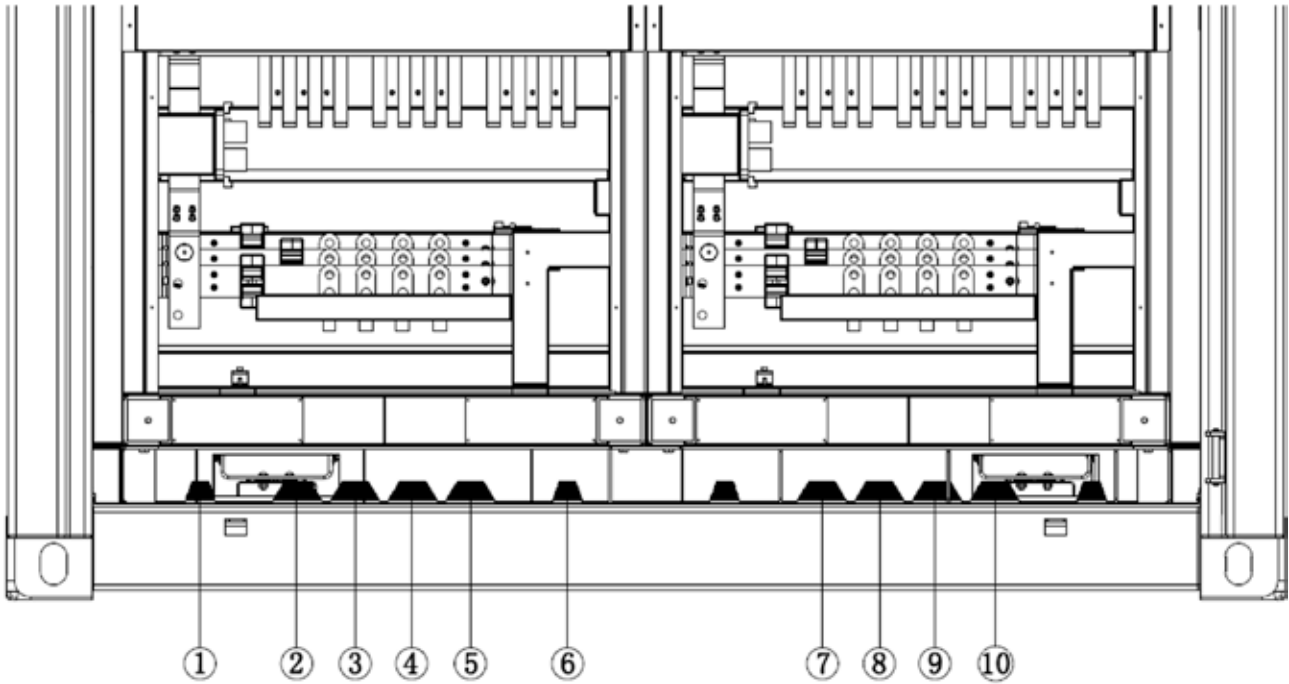

Fig. 6-2 Distribution of external wiring access points
· Cable runs from the bottom of the container through the tower-shaped bushing (Fig. 6-2, ports No. 2, 3, 4, 5, 7, 8, 9 and 10) into the PCS cabinet
- For external power supply, it is recommended to use AWG 4*#4 power cable, which should run from the bottom of the container through the tower-shaped bushing (Fig. 6-2, port 6) into the PCS cabinet
· For communication cables No. 1, 2 and 4, it is recommended to use Cat6A STP cable, which should run from the bottom of the container through the tower-shaped cable bushing (Fig. 6-2, port No. 1), ending with crimped RJ45 connectors. The general installation is shown below